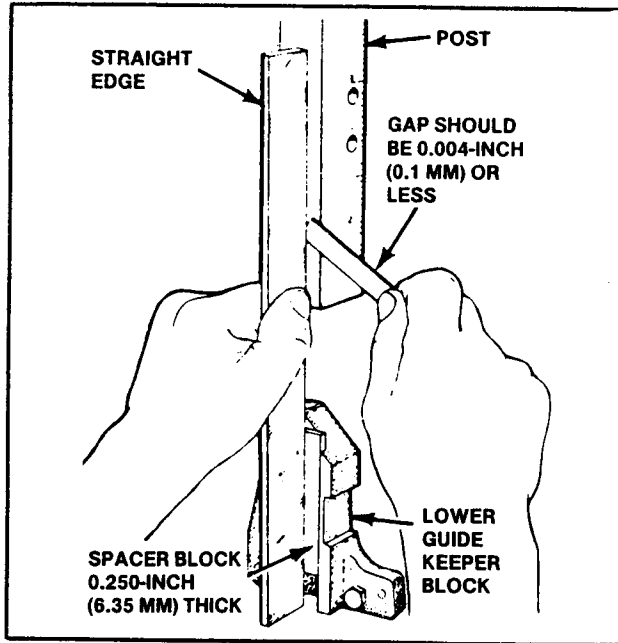

FIG. 6. ALIGN POST TO LOWER SAW GUIDE KEEPER BLOCK.
- (4) Post front should be parallel with lower keeper block's machined saw guide mounting recess. Check by placing a spacer block -- ground to exactly 0.250-inch (6.35 mm) thickness--in keeper block. Next, place an accurate straight edge against spacer block and post. Use a feeler gage to check clearance and parallelism to straight edge. Clearance should not be greater than 0.004-inch (0.1 mm). See Fig. 6.